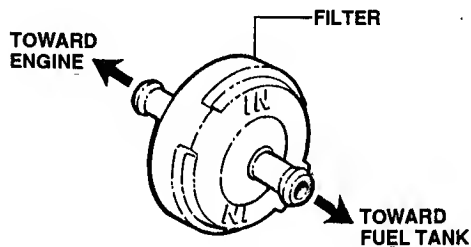

FIGURE 7.3
2. Make sure the replacement filter is correctly installed with "IN" marking toward the fuel tank and "OUT" toward the engine. Replace any parts which appear worn. See Figure 7.3.